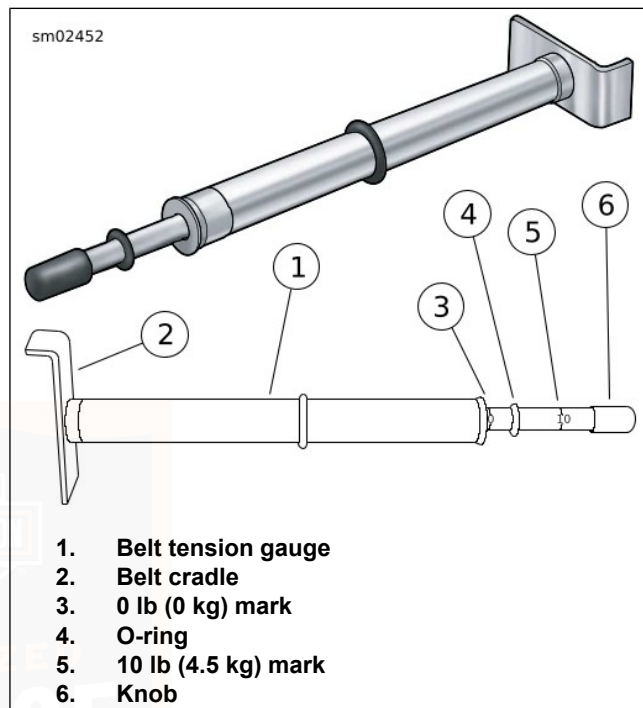

Figure 65. Belt Tension Gauge
3. See Figure 65. Measure belt deflection using: